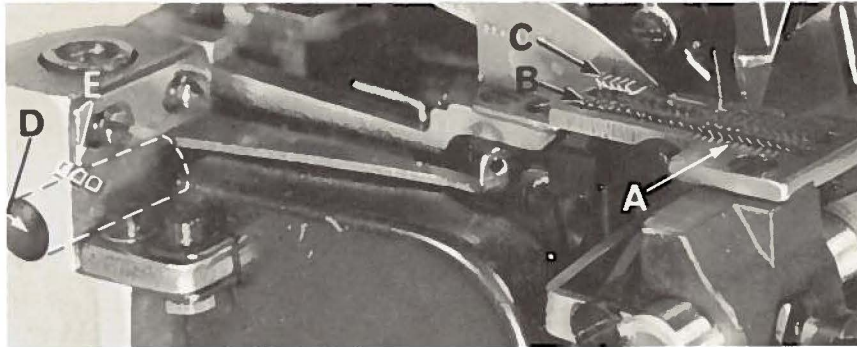

Fig. 12
On Style 39500 FA, set all three feed dogs (A, B, C, Fig. 12) so the top surfaces of teeth all lay in the same plane. This can be checked by sighting across teeth with a straight edge. Now assemble throat plate. Feed dogs should now be leveled with throat plate surface by rotating feed tilting adjusting pin (D). This pin raises or lowers the back end of both feed bars at the same time.